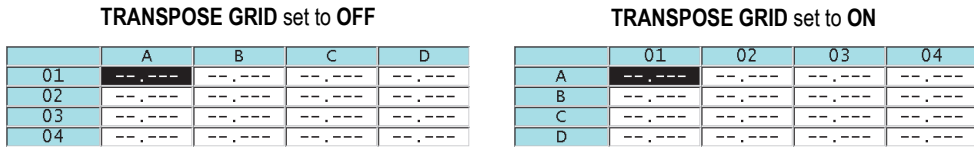

Figure 10-11 Grid transposition example
- Set **TRANSPOSE GRID** to **ON** to interchange the rows and columns in a grid (see Figure 10-11 on page 167).